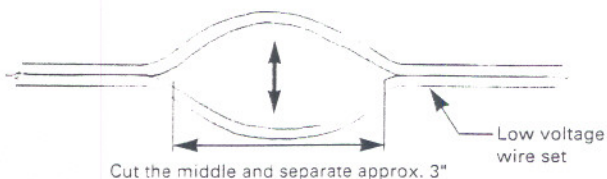

FIG. 17
1. The humidifier motor lead wire has two(2) push-on **female connectors** and the 20 foot low voltage wire has two(2) push-on **male connectors**. Connect the female to the male connectors first and then run the low voltage wire to the transformer.
2. At the transformer, carefully cut the insulation between the two conductors and separate them approx. **3"**. (Fig.17)